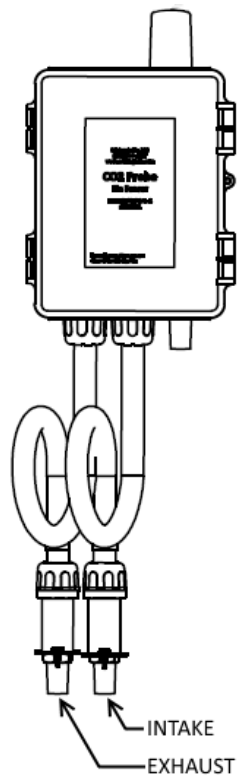

Figure 9: CO2 Hose
- 2) Install the Intake Hose in the fan ductwork. Install the Exhaust hose in the fan housing. Refer to **Figure 9: CO2 Hose**.